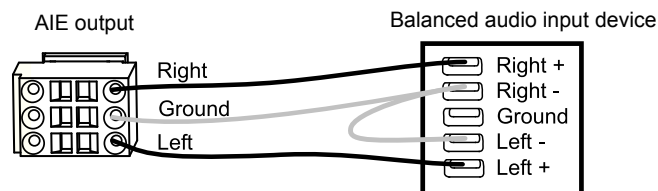

FIG. 79 Wiring from AIE to balanced audio input device if buzzing occurs
- If extracted audio buzzes when connected to a balanced audio input device, wire the AIE connector as follows: AIE L to device L+; AIE R to device R+; AIE ground to device R-; and a jumper from device R- to device L- (see FIG. 79 on next page).
The wiring in FIG. 79 can be used if the extracted audio buzzes when connected to a balanced audio input device.